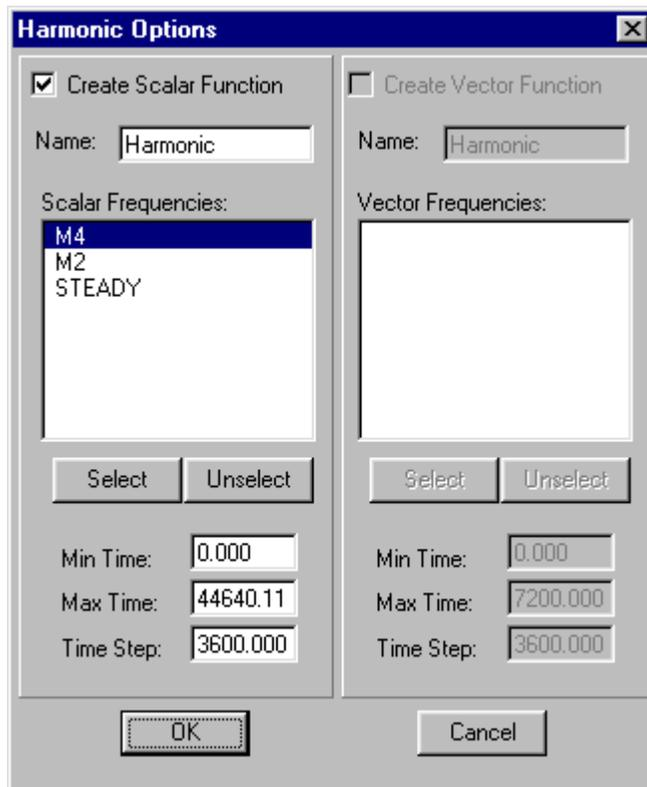

Figure 8.6 ADCIRC Harmonic Options dialog.
- *Harmonic*. Creates a scalar harmonic function and/or a vector harmonic function. Pushing the Options button brings up the *Harmonic Options* dialog shown in Figure 8.6. The name of the function(s) to be created can be set in the *Name* fields. The frequencies to be used in creating the function can be chosen by double-clicking on a frequency name shown in the *Scalar Frequencies* window or by clicking on the name and by pushing *Select*. A frequency can be unselected by double-clicking on the name again or by selecting it and pushing *Unselect*. The time values that will be used in calculating the timesteps can be set in the fields at the bottom of the dialog.